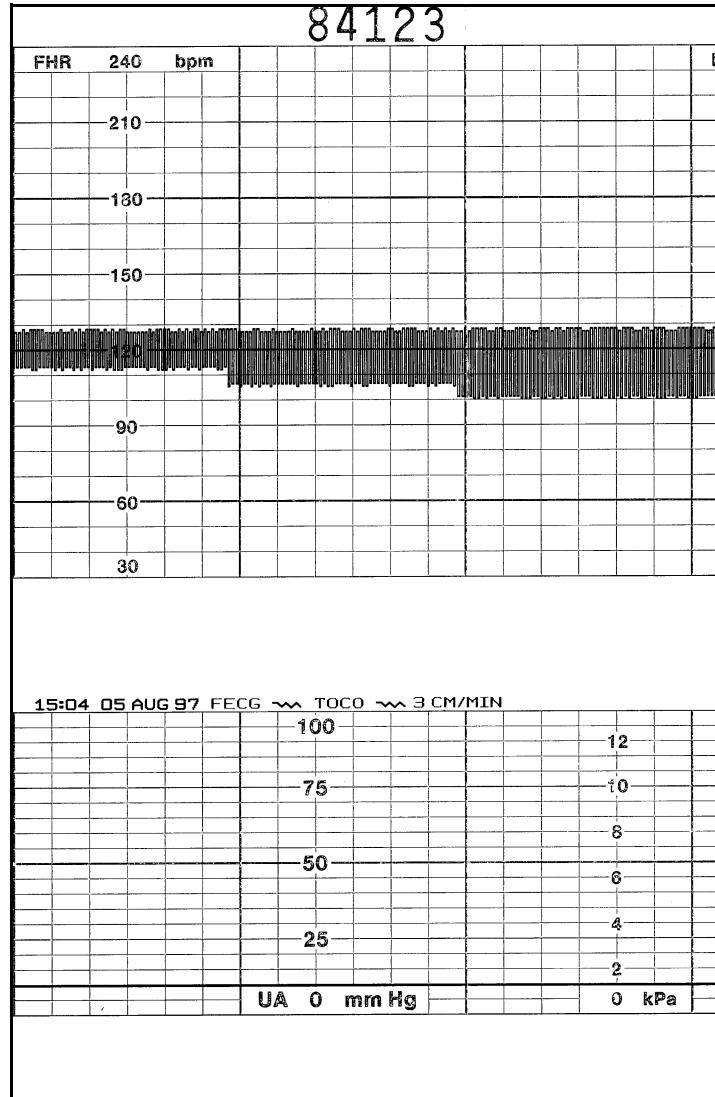

Figure 6-2. FECG Artifact Elimination
- ◆ The FHR trend oscillates 15 BPM between 115 and 130 BPM on the top grid of the strip chart paper. (See Figure 6-2.)
11. Repeat step 10 for rate values of  $\Delta 22$  and  $\Delta 27$ . The results should be the same except that the FHR1 value oscillates by either 22 or 27 BPM and the FHR trend is an oscillation of 22 or 27 BPM. The top value is always at approximately 130 BPM. (Refer to Figure 6-2.)
- ◆ The recorder prints an oscillation of 15 BPM between 115 and 130 BPM on the top grid of the strip chart paper. (Figure 6-2. shows the strip chart paper results.)